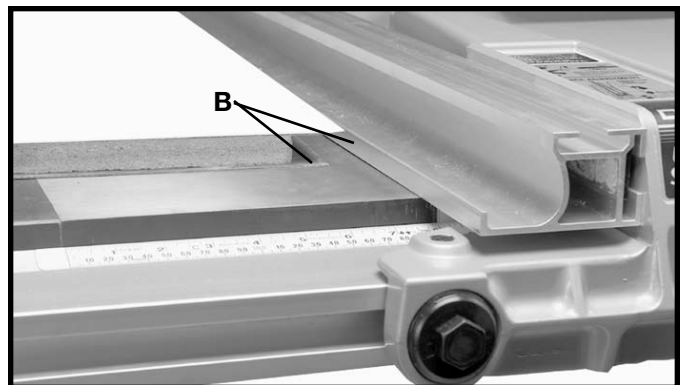

Fig. 49
When ripping material with a veneer facing and the material is not thick enough for the veneer to extend over the lip of the fence or if the veneer facing (B) is on both sides of the material, as shown in Fig. 49, the fence can be positioned slightly above the surface of the table. The veneer can be placed between the fence and the table or the veneer can straddle the fence with the material solidly against the fence.